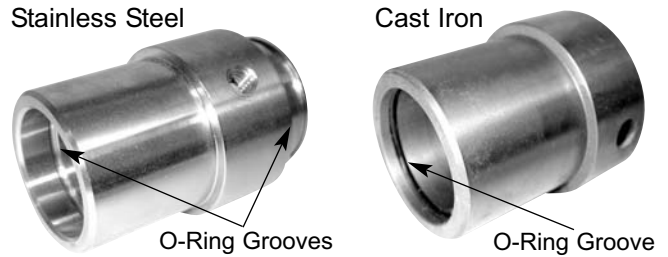

Figure 5
4. Note! The cast iron seal spacer contains one internal o-ring. The stainless steel seal spacer contains one internal o-ring and one external o-ring. (See Figure 5)